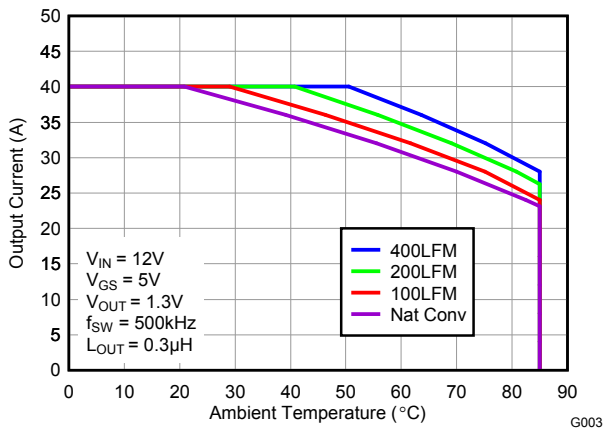
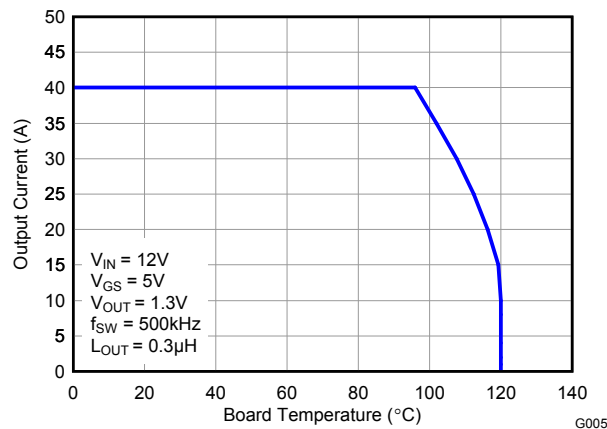

Figure 3. Safe Operating Area – PCB Vertical Mount(1)
Figure 5. Typical Safe Operating Area(1)
The SOA curves in the CSD86350Q5D data sheet provides guidance on the temperature boundaries within an operating system by incorporating the thermal resistance and system power loss. Figure 3 to Figure 5 outline the temperature and airflow conditions required for a given load current. The area under the curve dictates the safe operating area. All the curves are based on measurements made on a PCB design with dimensions of 4" (W) x 3.5" (L) x 0.062" (T) and 6 copper layers of 1 oz. copper thickness